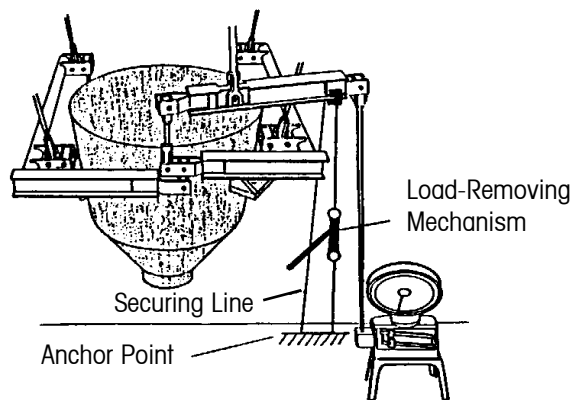

Figure 4-3: Blocking Overhead Systems
3. Once the load is removed from the main lever, use chains, wire rope, or a load binder to secure the lever's nose iron to anchor points that are capable of supporting the load (see Figure 4-3).